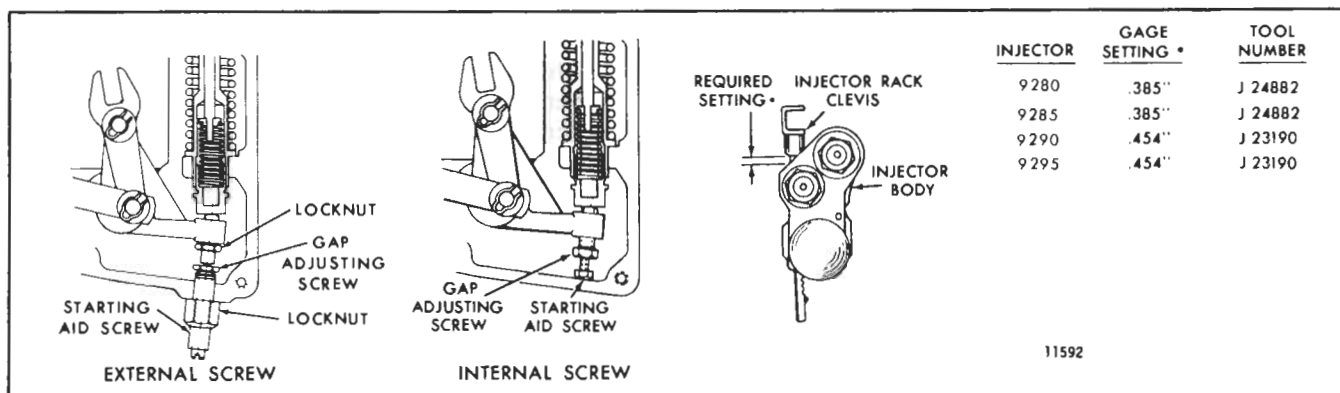

Fig. 5 - Starting Aid Screw Adjustment
- b. Adjust the starting aid screw to obtain the required setting between the shoulder on the injector rack clevis and the injector body (Fig. 5). Select the proper gage and measure the setting at any convenient cylinder. When the starting aid screw is properly adjusted, the gage should have a small clearance of 1/64" (.397 mm) in the space along the injector rack shaft between the rack clevis and the injector body.